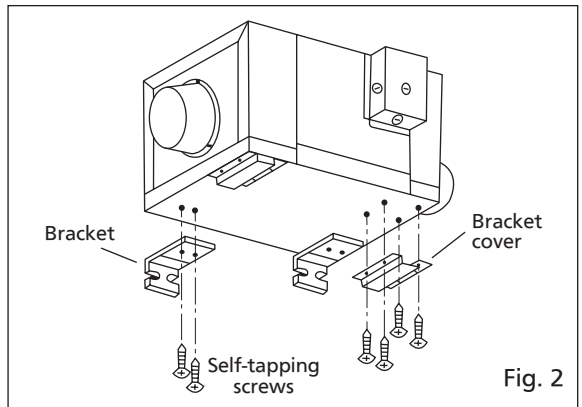

Fig. 2
- After confirming the direction that the unit will be facing, attach the bracket and bracket cover to the unit with self-tapping screws. (Fig.2)
The holder was assembled on the back side of the unit. (no shown in Fig.2)